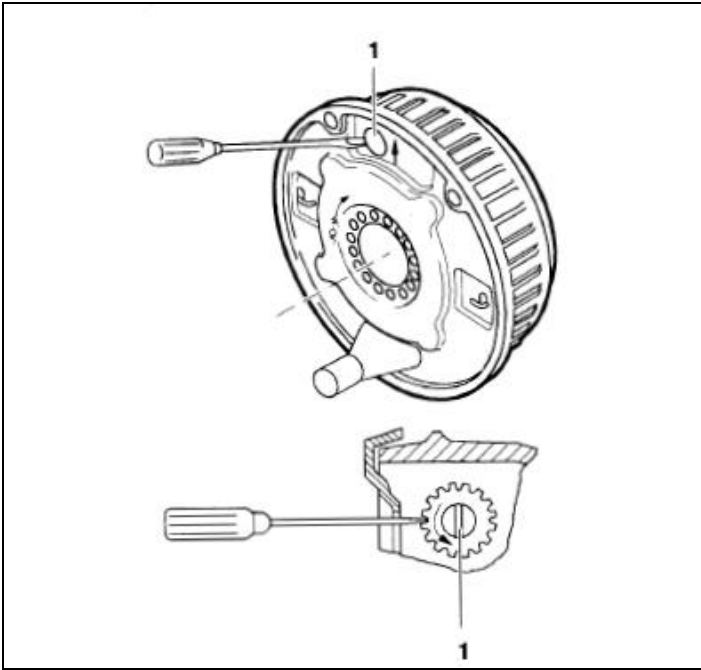

Figure 9.6 – Adjustment cross piece
5. While turning the wheel forwards (never backwards), adjust the cross piece using a suitable screwdriver by turning it in the direction of the arrow embossed on the support plate, until the wheel rotation hits a resistance point. (figure 9.6).
6. Loosen the cross piece adjuster until the wheel turns freely forward. (figure 9.6).